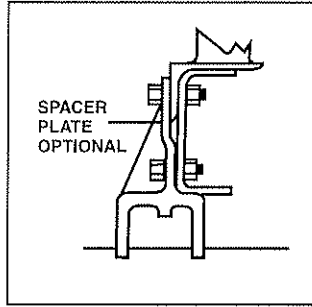

Fig. 4
7. Position the mounting angles on the frame, aligning the pivot position. Mark the angles for any cutouts or holes required for spring hangers, etc. If off-set spring hangers are used, the cutouts can be eliminated by sliding the angle behind the spring hanger and the frame rail. (See Fig. 4.)